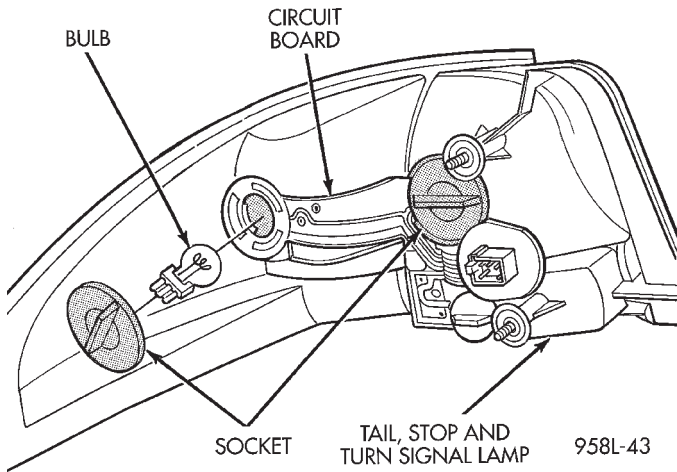

Fig. 7 Tail, Stop, and Turn Signal Lamp Bulb
- (5) Rotate socket counterclockwise one quarter turn.
- (6) Pull socket from back of lamp (Fig. 7).
- (7) Pull bulb from socket.